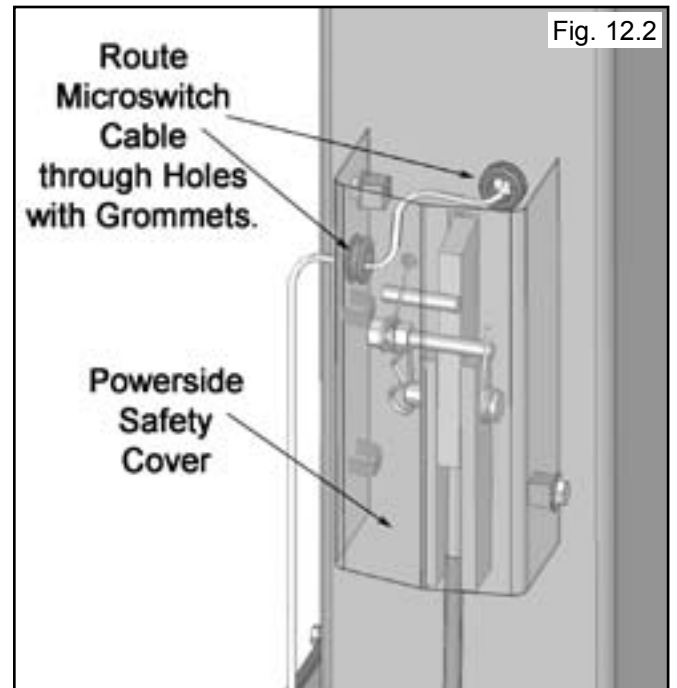

Fig. 12.2
2. Route Microswitch Cord through the hole in Powerside Column with Rubber Grommet. Loosely position Powerside Safety Cover and run other end of Microswitch Cable through Hole with Grommet in Powerside Safety Cover. (See Fig. 12.2)